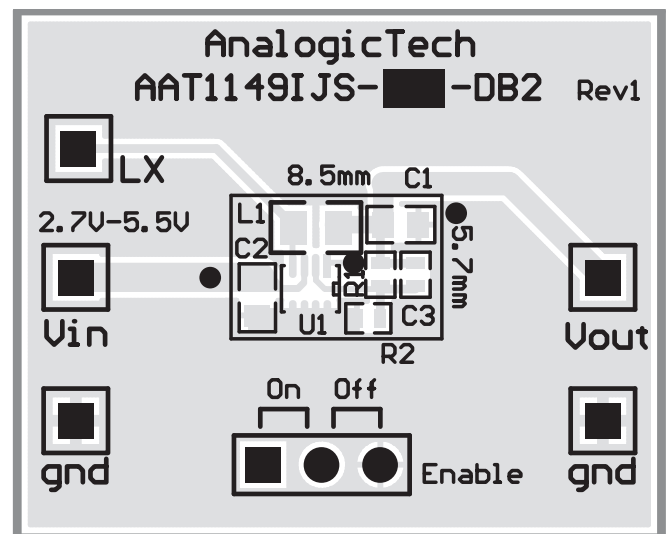

Figure 8: Minimum Footprint Evaluation Board Using 2.0x1.25x1.0mm Inductor.
5. The pad on the PCB for the WLCSP-5 package should use NSMD (non-solder mask defined) configuration due to its tighter control on the copper etch process. A pad thickness of less than 1oz is recommended to achieve higher stand-off. A high density, small footprint layout can be achieved using an inexpensive, miniature, non-shielded, high DCR inductor, as shown in Figure 8.